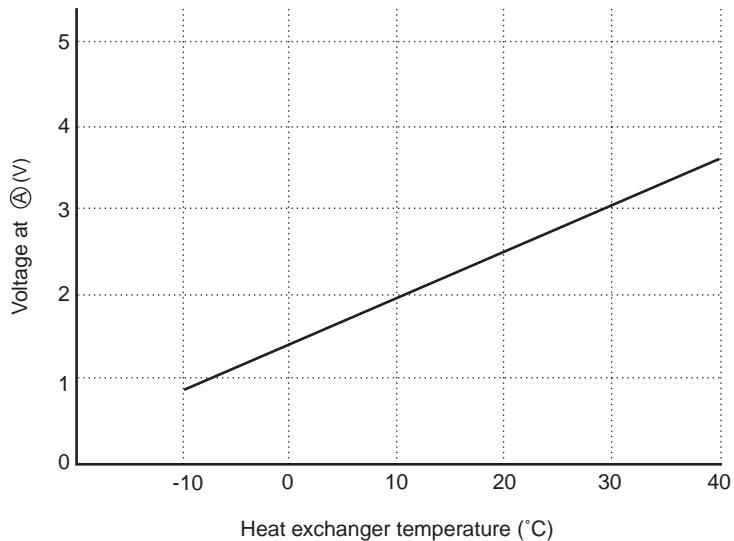

Fig. 6-2
The voltage at ① depends on the heat exchanger temperature as shown in Fig. 6-2.